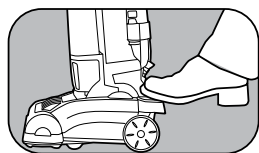

Fig. 1
1. To release the handle, step on the handle release pedal on the left side of the vacuum nozzle and pull back the handle (Fig. 1) for normal cleaning (Fig. 2).